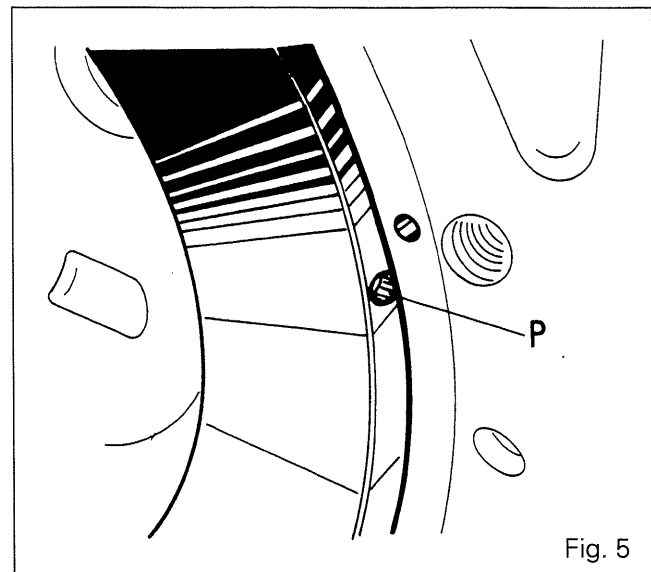

Fig. 5
24. Apply Anti-seize grease on the bearing surfaces of the shaft (1) and refit it with the retaining rings (3).
25. Position the O-rings (2) and bushes (16), with the chamfer directed towards the seal (2).
26. Protect the splines on the lift shaft. Apply Loctite 542 on the sealing bushes (15) and fit them as per Fig. 5.
27. Apply Anti-seize grease on the seals (14) and position them on the lift shaft. Remove the protection. Fit the lift arms, washers (8), retainers (9) and bolts (10) coated with Loctite 270. Lock a bolt (10) at the end of the shaft and fold down the tabs on the retainer. Tighten the other bolt until the arms can be raised or lowered freely. Fold down the tabs on the retainer.
28. Refit the cam (4). Tighten bolt (5) smeared with Loctite 270 to a torque of 11 to 16 Nm. Refit the lift cover (see part A). Fit and adjust the speed sensor (see part C).
29. Smear the mating face on the spool valve support with loctite 518. Tighten the bolts (11) to a torque of 34 to 51 Nm.
- Studs (21) (22) : 214 - 235 Nm (Loctite 270)
**Note :** On tractors equipped with trumpet housings with dual reduction units, the lateral bores «P» positioned diametrically opposite on the piston, must be along the horizontal axis (Fig. 5).